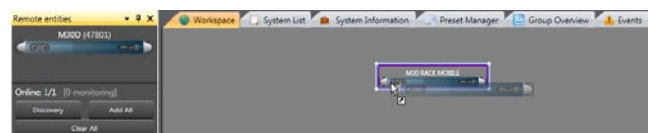

FIGURE 23: Drop the discovered device on the virtual device; when the arrow appears, release the left mouse button
2. Drag the remote device into the workspace onto the virtual device (see FIGURE 23).